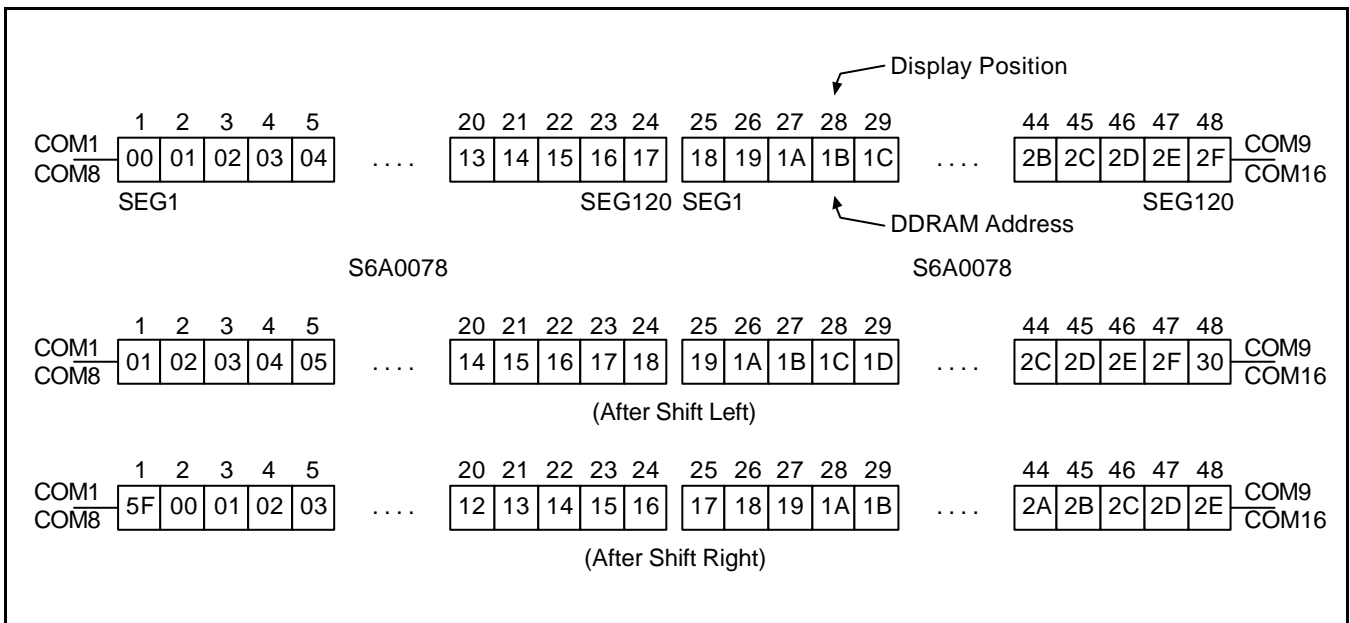

**Figure 1. DDRAM Address**
DDRAM address is set in the address counter (AC) as a hexadecimal number. (refer to Figure 1)